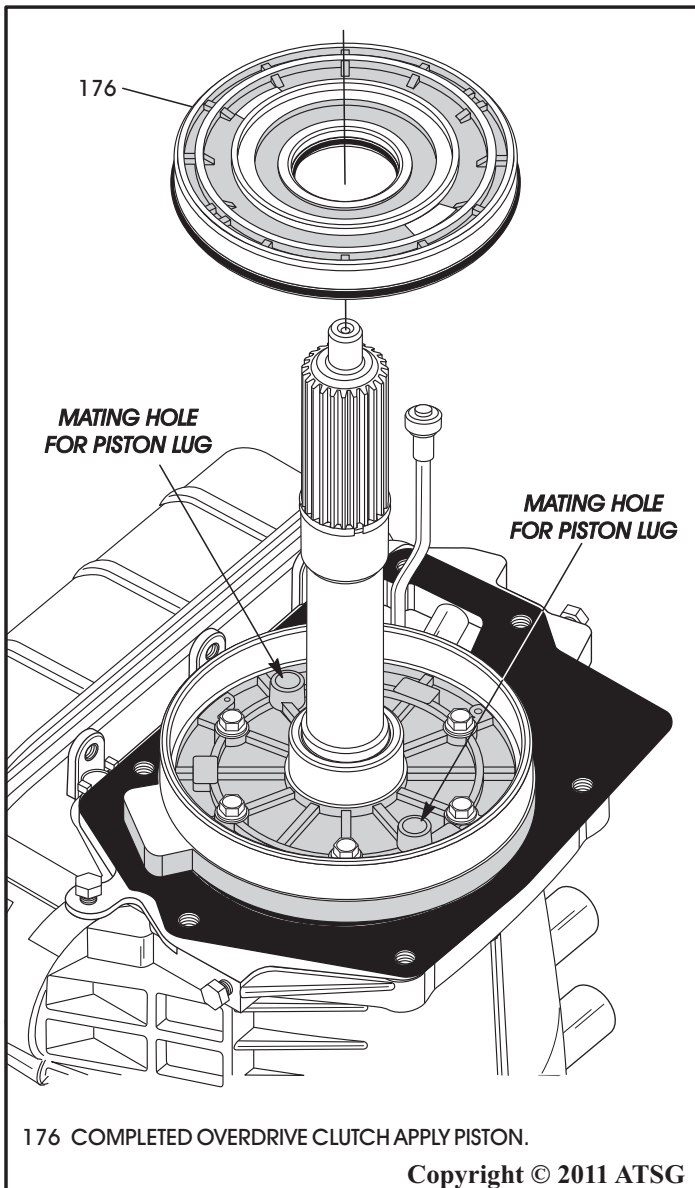

Figure 232
46. Install the completed overdrive clutch piston into the overdrive clutch retainer, using seal savers as necessary, as shown in Figure 232.
**Note:** *Locating lugs on overdrive piston must be aligned with the two mating holes in the overdrive retainer (See Figure 232).*